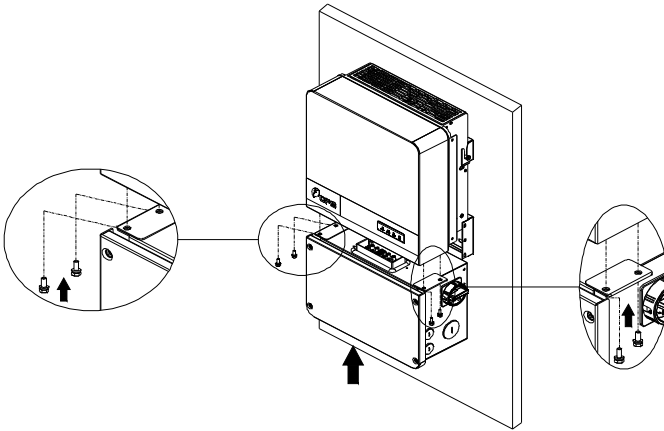

Figure 3-8 Installation of the Wiring Box
3. Secure the wiring box to the main enclosure by using the **M6x18 screws (4pcs) to fasten the wiring box. (see Figure 3-8)**